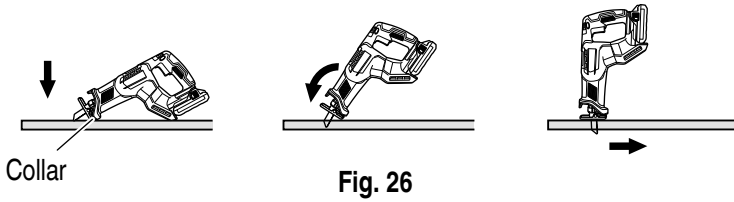
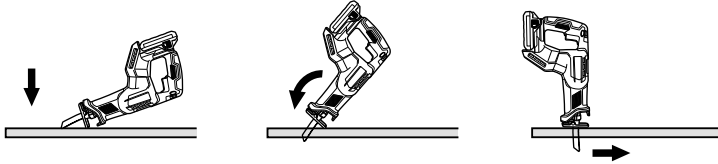

Fig. 26
Fig. 27
- Plunge cutting (Fig. 26, Fig. 27 on page 46)
With this tool, you can perform plunge cutting on plywood panels and thin board materials. You can carry out plunge cutting quite easily with the saw blade installed in reverse as illustrated in Fig. 27 on page 46.